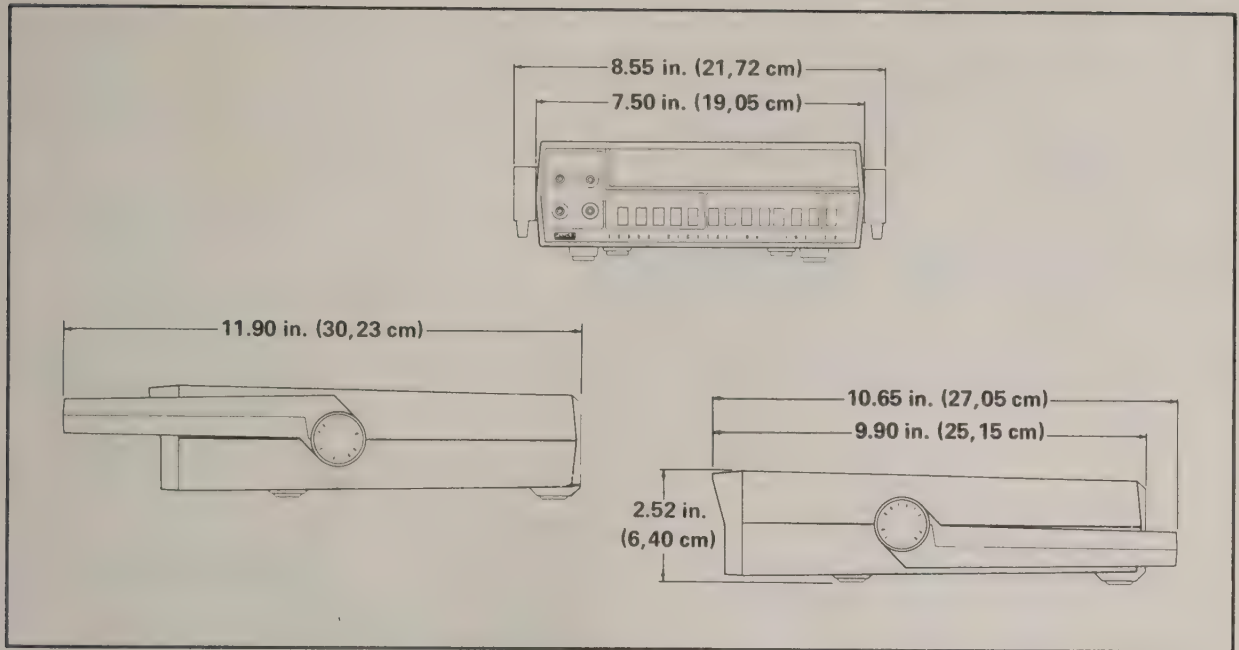

Figure 1-1. MODEL 8600A OUTLINE DRAWING
8.55" wide x 2.52" high x 10.65" deep (See Figure 1-1)